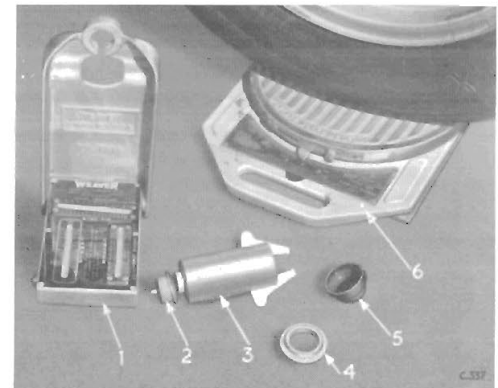

Fig. 5.
Run the front wheels on to Weaver or similar wheel turning radius gauges as shown on Fig. 5 and place wood blocks of equivalent thickness to that of each gauge under the rear wheels. Zero the gauges with the front wheels in the straight ahead position.
Ensuring that the split pin does not foul it, place the spacer washer (4), Fig. 5, with flange outwards, and engage the claws of the adaptor (3) on the stub axle thread between two of the nut slots. Secure the spirit level unit (1) to the adaptor and tighten the knurled nut (2).